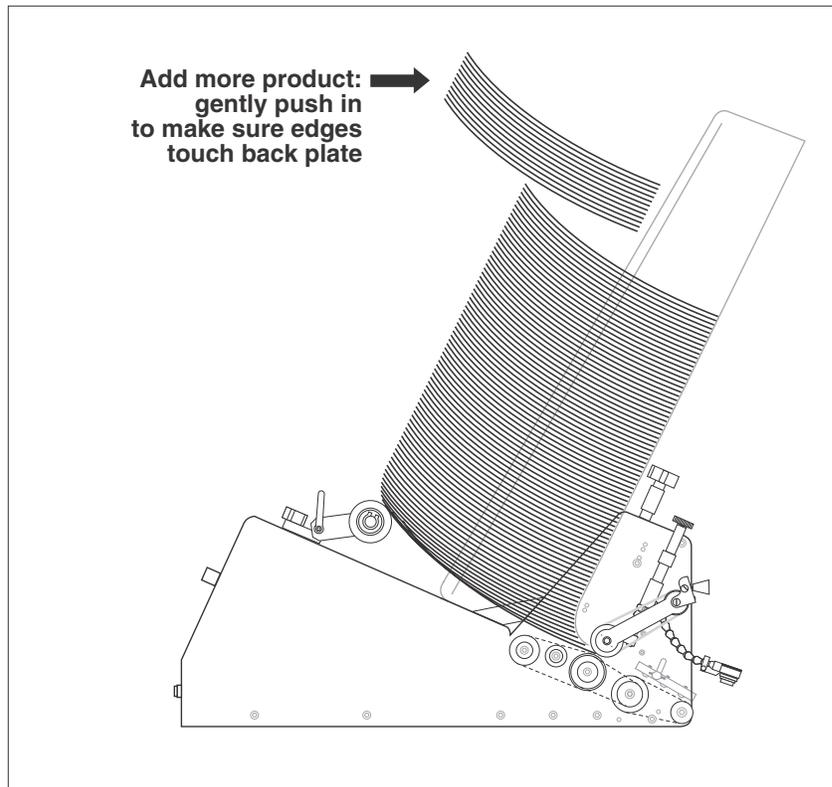

Figure 3-3. Adding More Material to Hopper
1. Gradually add more material to the hopper after the initial stack is formed around the gate assembly. As stack height will have a preferred minimum and maximum, you will have to experiment to determine effective range of height (Figure 3-3).